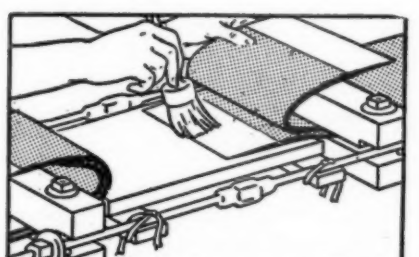

Figure 13
10. Apply waterproof cement sizing coat (Fig. 13).
11. Let dry 30 minutes or until clear. If the first sizing coat does not dry with a shine, a second coat should be applied and left to dry (Fig. 13).